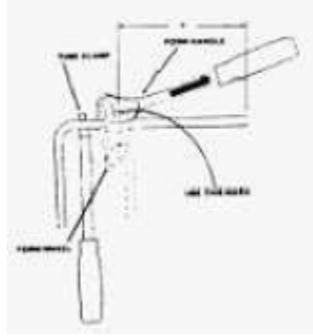

Figure 8-41. Using the "R" Mark
3. If the end from which you measured is placed to the right of the tube clamp, set the mark on the tube directly over graduation "R" located on the form lever and shown in Figure 8-41. With a steady motion, pull form lever handle around until the "0" mark on form handle is directly opposite the 90 degree mark on form wheel.